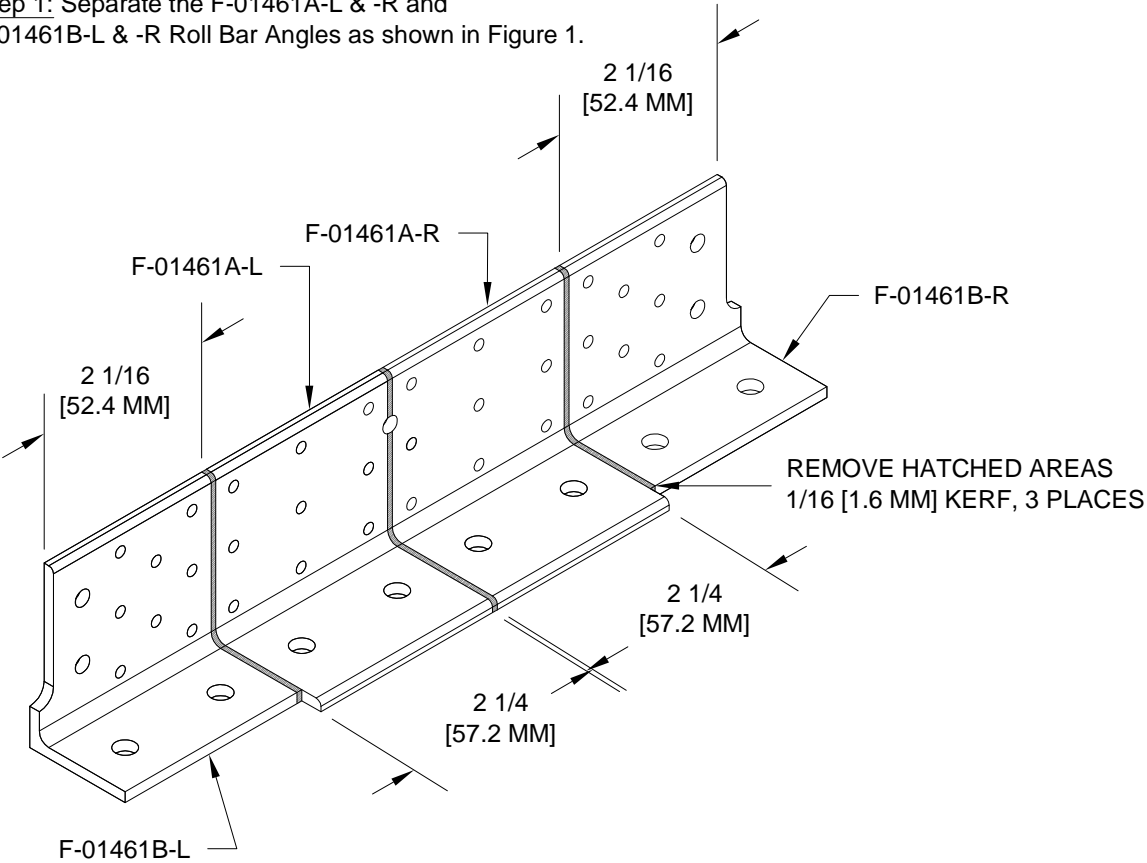

FIGURE 1: ROLL BAR ANGLES
Step 1: Separate the F-01461A-L & -R and F-01461B-L & -R Roll Bar Angles as shown in Figure 1.